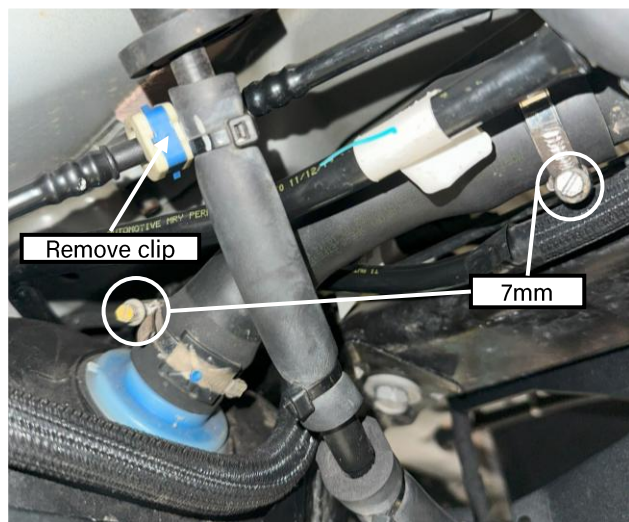

Figure 6: Gas filler neck to be loosened
- ❑ Loosen the filler neck clamp and slip it off the tube (Figure 6) using a 7mm socket or wrench